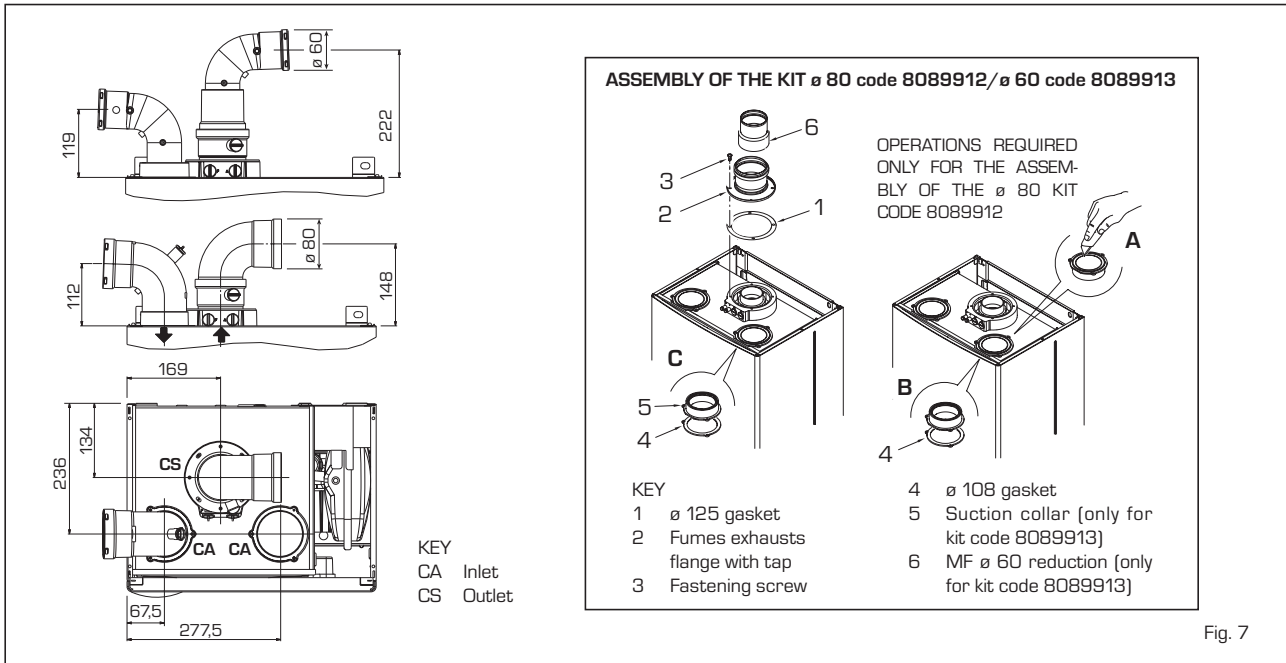

Fig. 7
2.6 INSTALLATION OF SEPARATE DUCTS \varnothing 80 - \varnothing 60 (fig. 7 - fig. 8)
The kit with dedicated pipes enables to separate the exhaust fumes pipes from the air suction pipes (fig. 7):
exhaust flange [pos. 2 fig. 7] when the total load loss of the separate ducts is below H₂O (do not use the diaphragm with total load losses above 9 mmH₂O up to 15 mmH₂O).